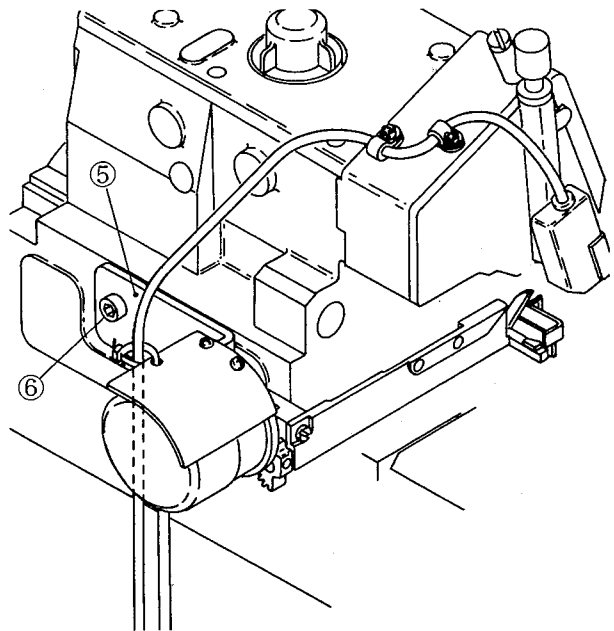

Fig.9
- 2) Tighten the screw ③ at the flat place on the shaft of upper knife so that the clearance between the driving gear ① and upper knife holder ② is 1 mm.
- 3) Make some clearance between the drive gear ④ and the driving gear ① by changing the position of solenoid holder ⑤ after loosening two screws ⑥. (Fig. 9)